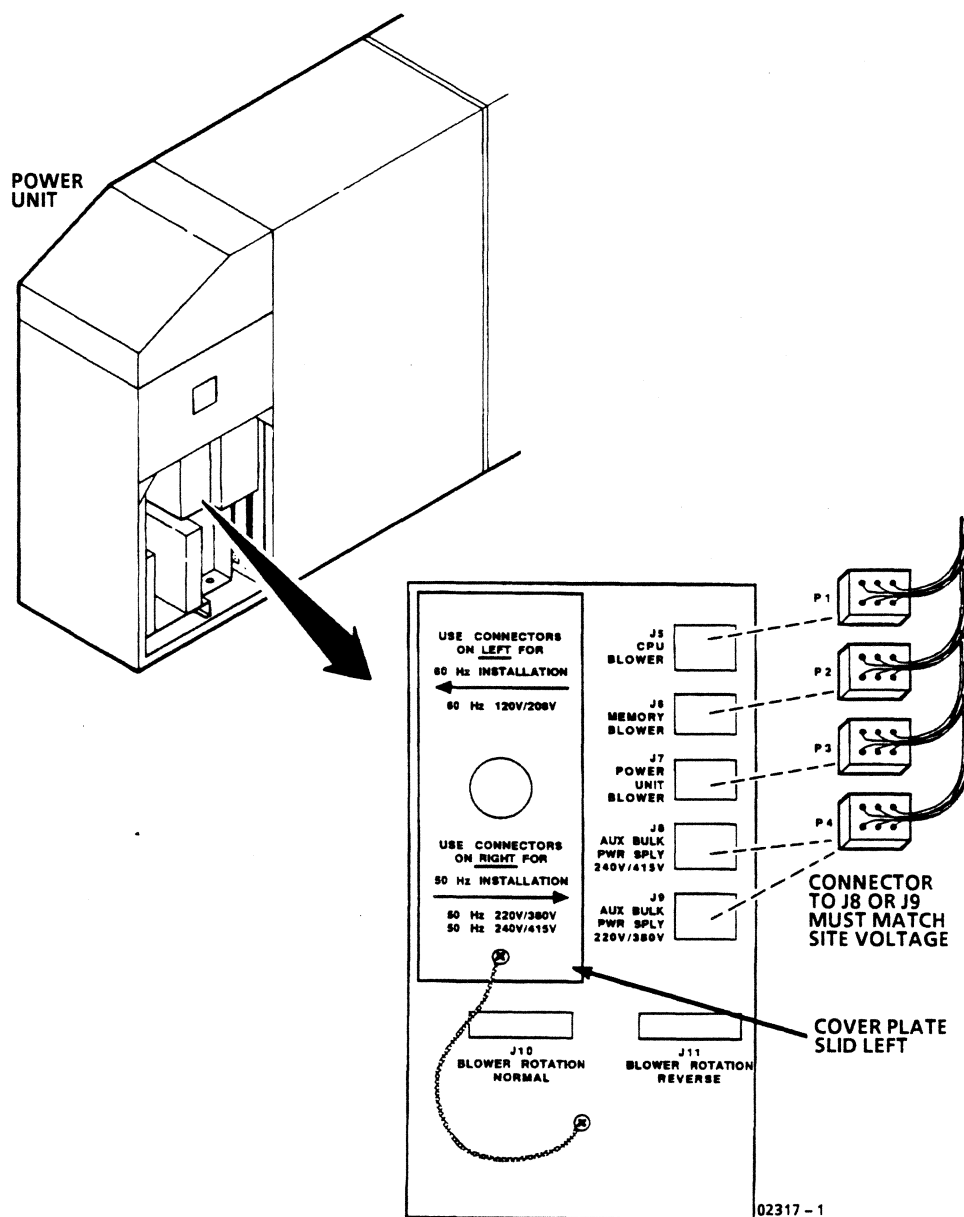

Figure 2-43. Power Unit 50-Hz Cable Connections
- ___ a. For 50-Hz voltage, connectors must be as shown in figure 2-43.